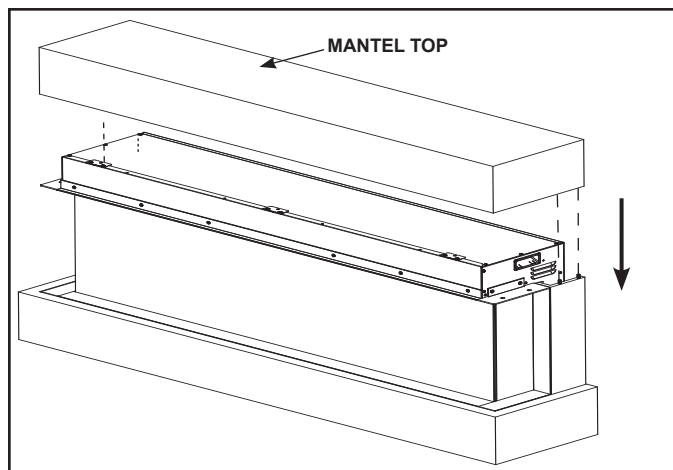

Figure 21
10. Attach the mantel top to the mantel side panels by aligning the holes in the mantel top with the dowels. See Figure 21.